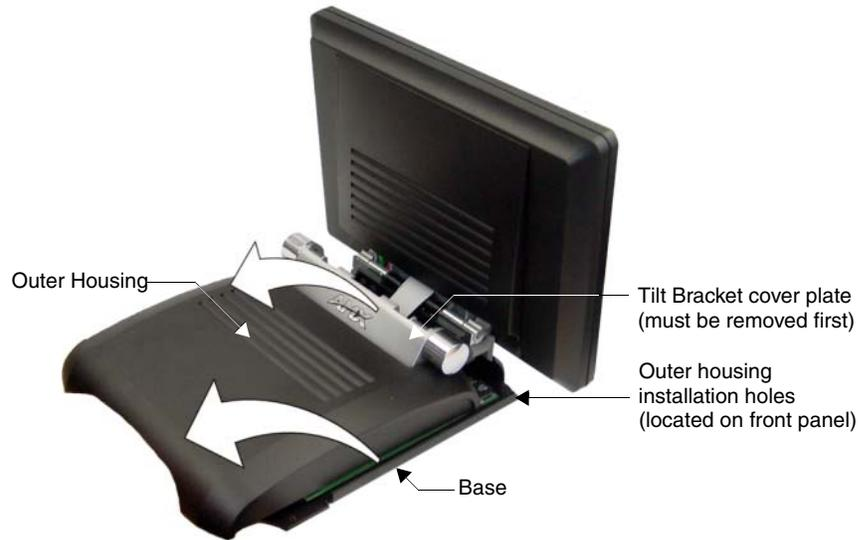

FIG. 17 Removal of the outer housing and wireless card location
8. *In a single motion*, carefully pull both the Tilt Bracket cover plate and outer housing up and then out (away from the LCD panel) to expose the internal circuit board (FIG. 17).
4. Press the outer housing forwards until it is aligned over the outer housing installation holes. Once installed and secured, the tilt bracket prevents any further movement (FIG. 17).